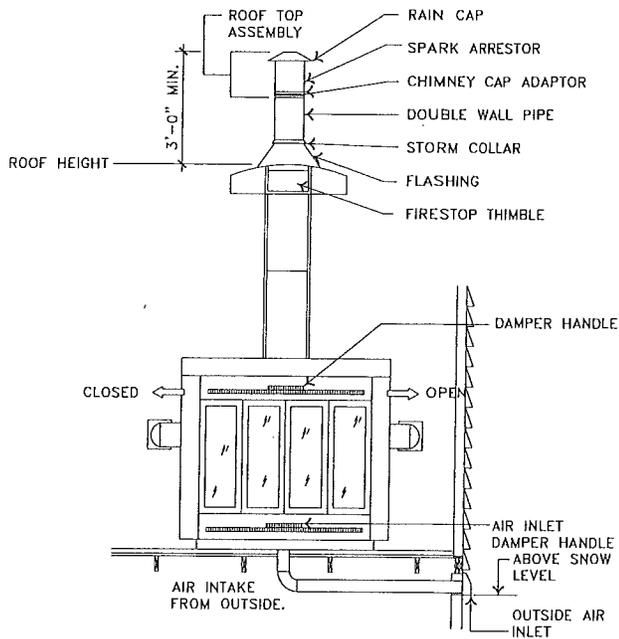

Figure 73. Chimney and combustion air intake duct installation
2. **Install chimney pipe.** Assemble and seal the chimney per the fireplace or wood stove manufacturer's installation instructions and if there is a conflict between the instructions and the figure, follow the instructions. To assure sufficient draft for proper operation, extend the chimney at least three feet above the highest point where it penetrates the roof and at least two feet higher than any surface within 10 feet of the chimney (Figure 73). Use additional section(s) of chimney pipe (not provided) if required by local code or if the site has obstructions within 10 feet of the chimney.